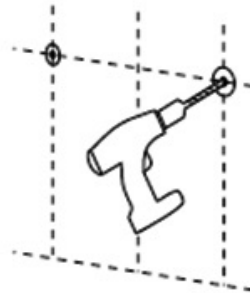

Fig. 6
2. Drill 3 holes into the wall (figure 6).